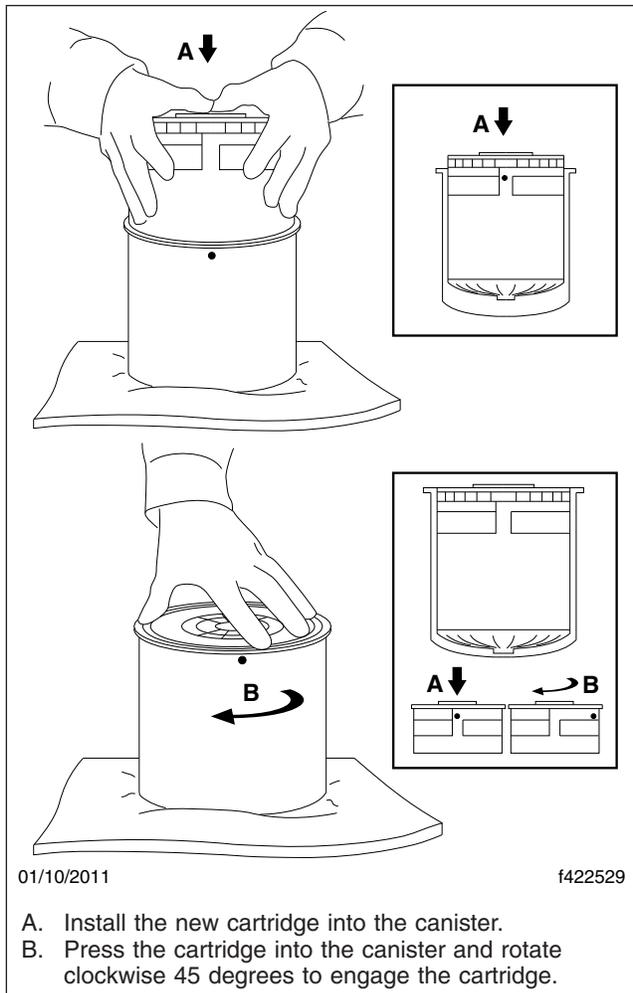

Fig. 4, Cartridge Rotation and Engagement
- Install the new cartridge into the canister. Align the slots on the cartridge with the dimplets inside the canister. Press the cartridge into the canister and rotate clockwise 45 degrees to engage the cartridge, as shown in Fig. 4.